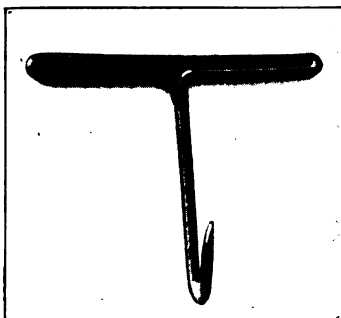

FIG. 48. SCALDING HOOK.
- 10 Weld one-half of the double bar handle slightly, as shown in Fig. 48. Then weld the other half.